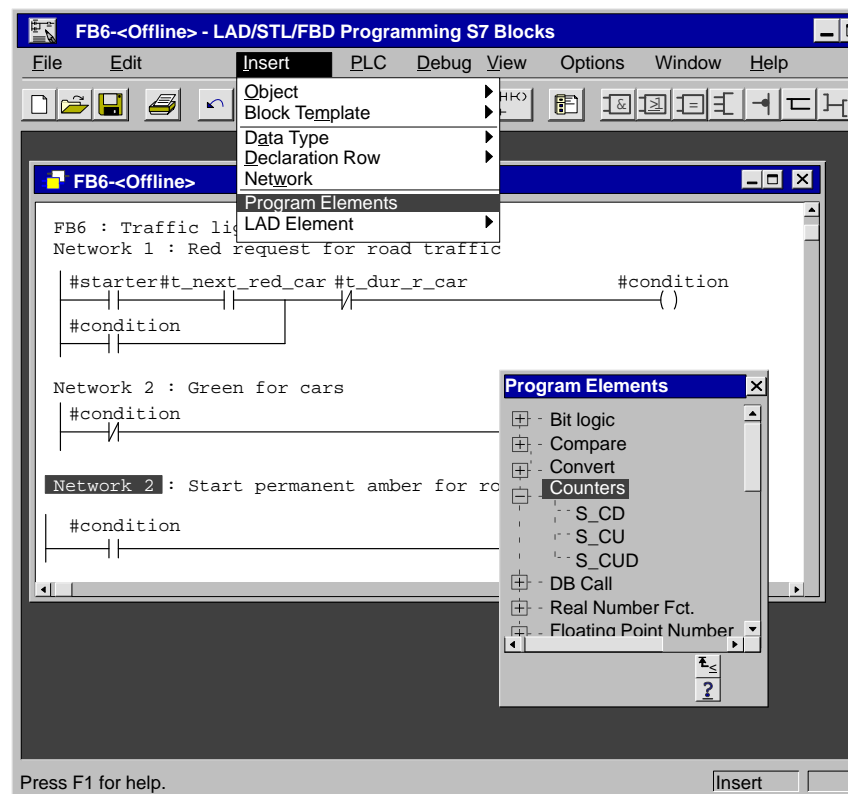

Figure 3-12 Inserting a Ladder Element Using the Program Elements Dialog Box
- Select elements from the list box in the **Program Elements** dialog (see Figure 3-12). To display this dialog box, use the menu command **Insert ► Program Element...**, the button in the toolbar, or the function key F11.